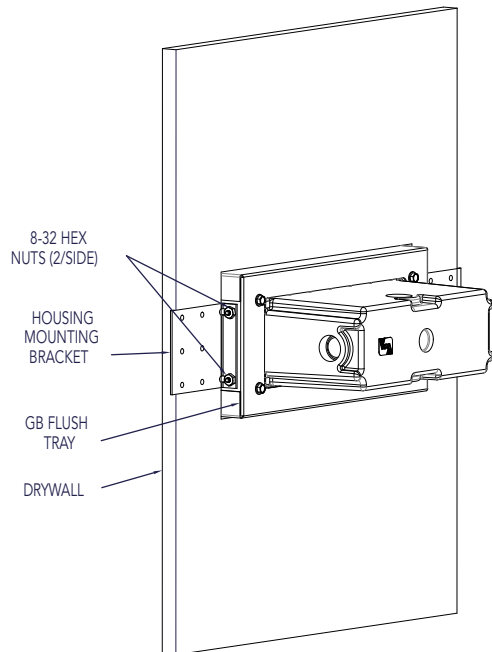

Figure 1
1. Position the housing mounting brackets to accommodate either 1/2" thick drywall or 5/8" thick drywall (fig. 1).
2. Secure the (2) RIS housing mounting brackets with (4) 8-32 Hex Nuts (provided) (fig. 1).